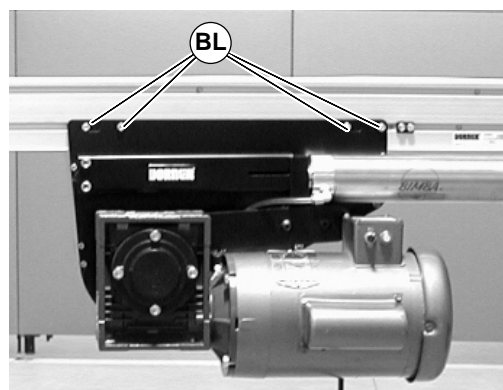

Figure 41
2. If necessary, adjust the tracking cam: loosen the center drive fastening screws (BL of Figure 41) on the side of center drive to be tracked.
4. Tighten the center drive fastening screws (BL of Figure 41) to 146 in-lbs (16.5 N-m).